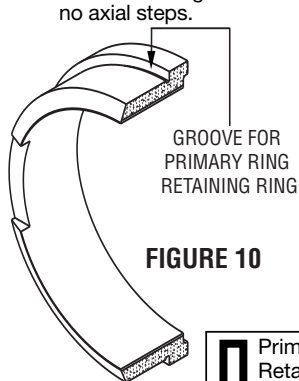

FIGURE 10
- Assemble the primary ring halves together around the shaft. From this point on, do not separate them from each other. (Note: Pushing the primary ring against the mating ring makes aligning the halves easier.) Center the primary ring retaining ring over the split joint of the primary ring halves. Slide it into the groove on the primary ring outside diameter as shown in Figures 10 and 11. Check that all split joints are flush, with no axial steps.